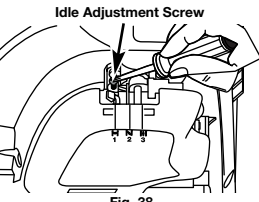

Fig. 38
The idle speed of the engine is adjustable. An idle adjustment screw is between the air filter cover and the engine starter housing (Fig. 38).
- Release the throttle trigger and let the engine idle. If the engine stops, insert a small phillips screwdriver in between the Air Filter Cover and the Engine Cover (Fig. 38). Turn the idle speed screw in, clockwise, 1/8 of a turn at a time (as needed) until the engine idles smoothly.